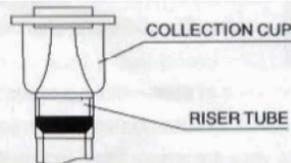

Figure 4
**The most important thing to remember is to empty and clean the collection cup regularly.** empty the cup when you notice that there is an about an inch of greenish-brown fluid collected. Clean the cup and the riser tube after emptying. (see figure4) Note: The hang on skimmer has an o-ring where the collection cup seats into the outer cylinder. ( This part is already installed when the hang on skimmer is assembled.) The o-ring may need to be replaced if it is lost or fails to provide an adequate seal.